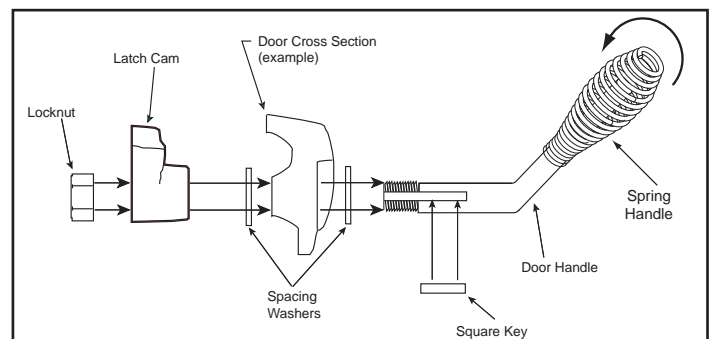

Figure 23.3
3. Install additional washer(s) as shown in **Figure 23.3.**
7. Install handle turning in a counter-clockwise motion to desired location on door handle rod. **Figure 23.3.**